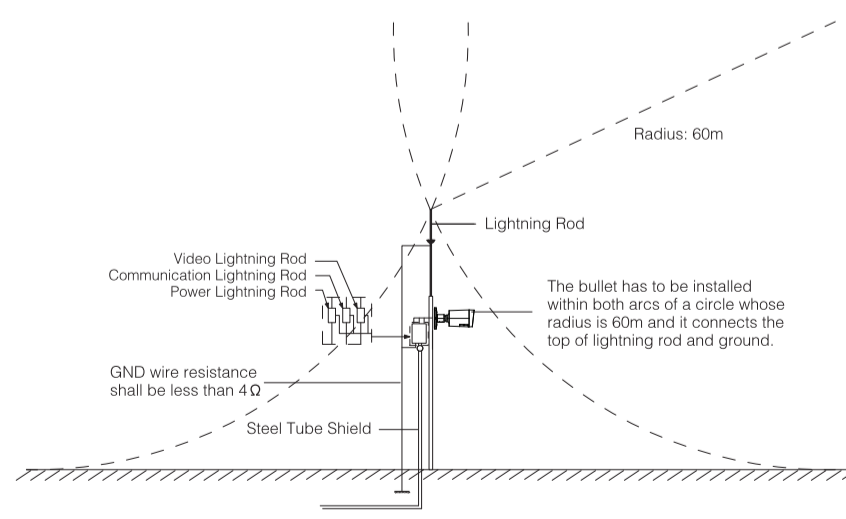

Figure 5-1
- System shall adopt equal-potential wiring. The earth device shall meet anti-jamming and at the same time conforms to your local electrical safety code. The earth device shall not short circuit to N (neutral) line of high voltage power grid or mixed with other wires. When connect the system to the earth alone, the earth resistance shall not be more than 4Ω and earth cable cross-sectional area shall be more than 25 mm². See Figure 5-1.